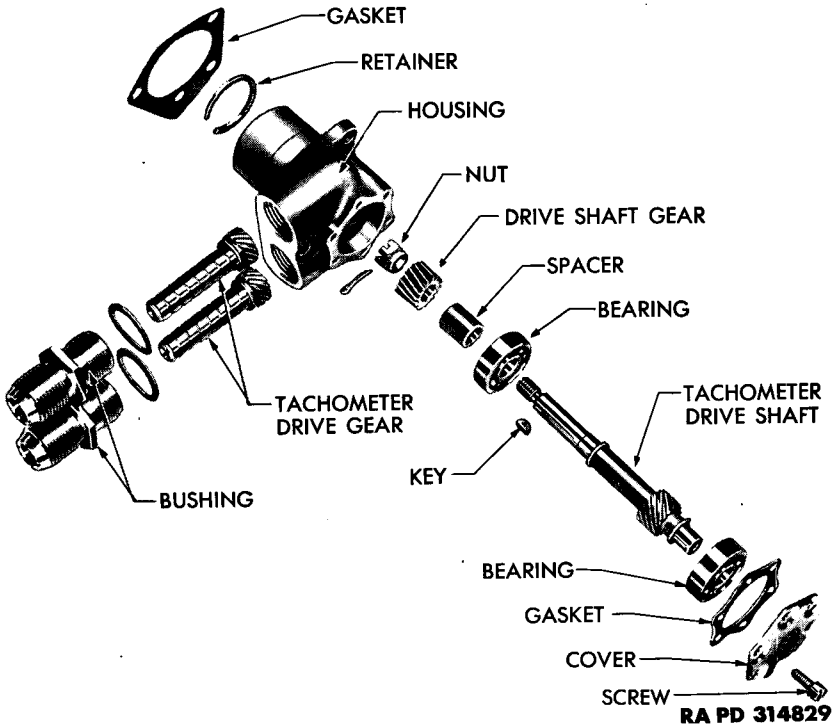

Figure 189 – Tachometer Drive Assembly – Disassembled
a. Disassembly. Remove protective caps from outer ends of bronze bushings. Remove lock wire, six cap screws, and washers which retain cover on tachometer housing (fig. 189). Remove cover and gasket. Unscrew both tachometer driven shaft bronze bushings from housing. Withdraw two sleeves and gaskets. Pry out tachometer drive shaft ball bearing retainer located at inner end of housing. Remove cotter pin and nut holding drive shaft gear and spacer in place. Remove gear, spacer, and gear key. Pull out tachometer drive shaft, drive shaft gear, and inner ball bearing, as a unit. Remove other ball bearing from housing.